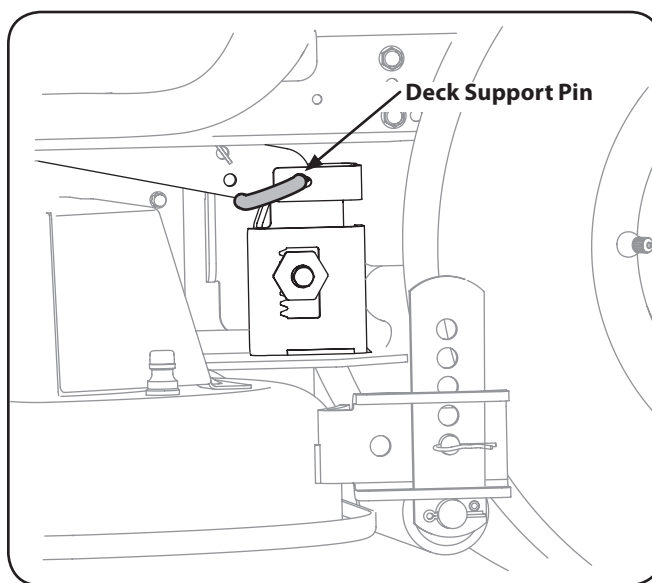

Figure 7-3
5. Looking at the cutting deck from the left side of the tractor, locate the deck support pin on the rear left side of the deck. Refer to Figure 7-3.
6. Pull the deck support pin outward to release the deck from the deck lift arm. See Figure 7-3.